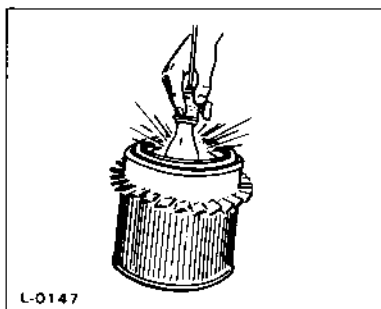

Fig.25
3. After cleaning the element, check to see that it has no cracks or pinholes by placing an electric bulb inside it; if any, or if its gasket is damaged, replace the element with a new one. (Fig.25)